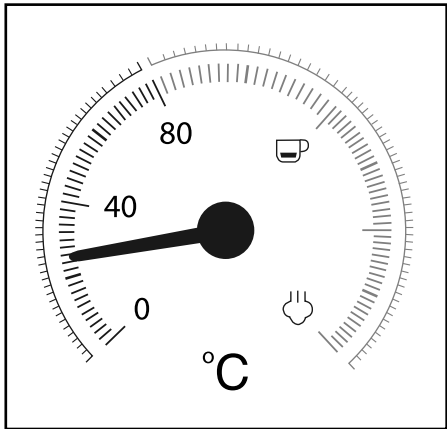

Figure 1
The temperature indicator ❷ indicates how far the appliance has heated up (Figure 1).